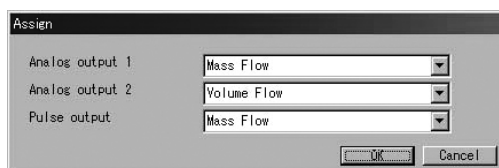

Fig.21
② A message box as shown in Fig. 21 appears. At this window, Analog outputs 1 and 2, and Pulse output are assigned.